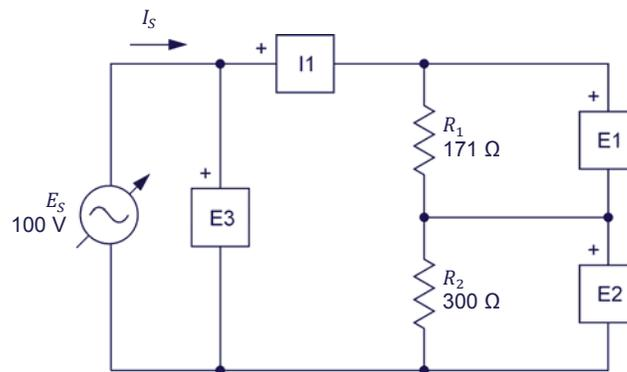

Figure 1-9. AC circuit containing two resistors connected in series.
- 24.** Set up the circuit shown in Figure 1-9. To obtain the resistor arrangement of Figure 1-9, make the necessary connections and switch settings on the Resistive Load (refer to Appendix C if necessary). Use inputs **I1**, **E1**, **E2**, and **E3** of the **Data Acquisition and Control Interface** to measure the source current  $I_S$ , voltage  $E_{R1}$ , voltage  $E_{R2}$ , and source voltage  $E_S$ , respectively.